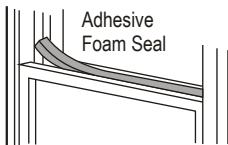

Fig. 8
4. Cut a third piece of Adhesive Foam Seal to the appropriate length to seal any gap between the top window sash and outer window sash (Fig. 8).